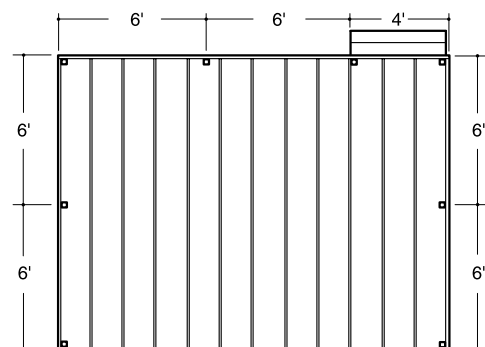

fig. 2
Step 1 Determine the number of railing posts needed for your deck. Post spacing is either 6' on center or 8' on-center depending on the rail length chosen. Example: A 12' x 16' deck attached to a building with a 4' access opening on one side will require a total of eight posts (fig. 2).